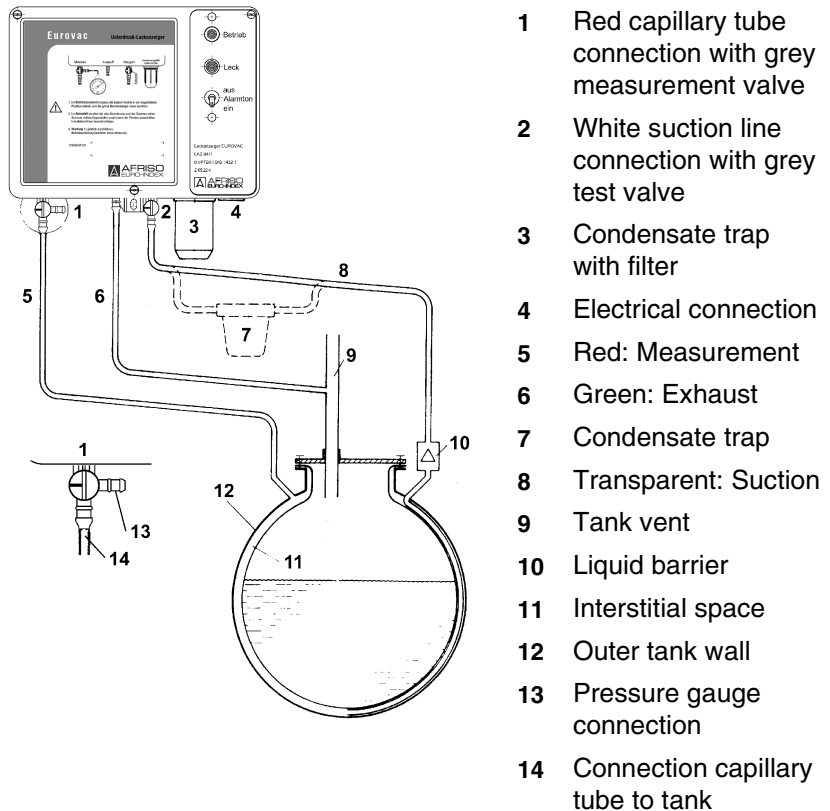
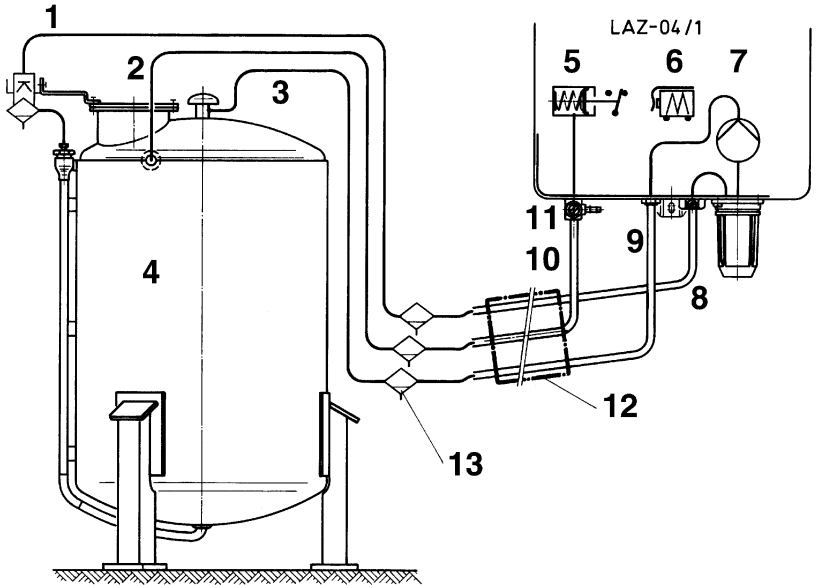

Fig. 3: Application example
Fig. 4: LAZ-04/1 at vertical tank according to DIN 6618-2
1. Connect the leak detector and the tank top to be monitored as shown in fig. 3, page 11, and fig. 4, page 12.